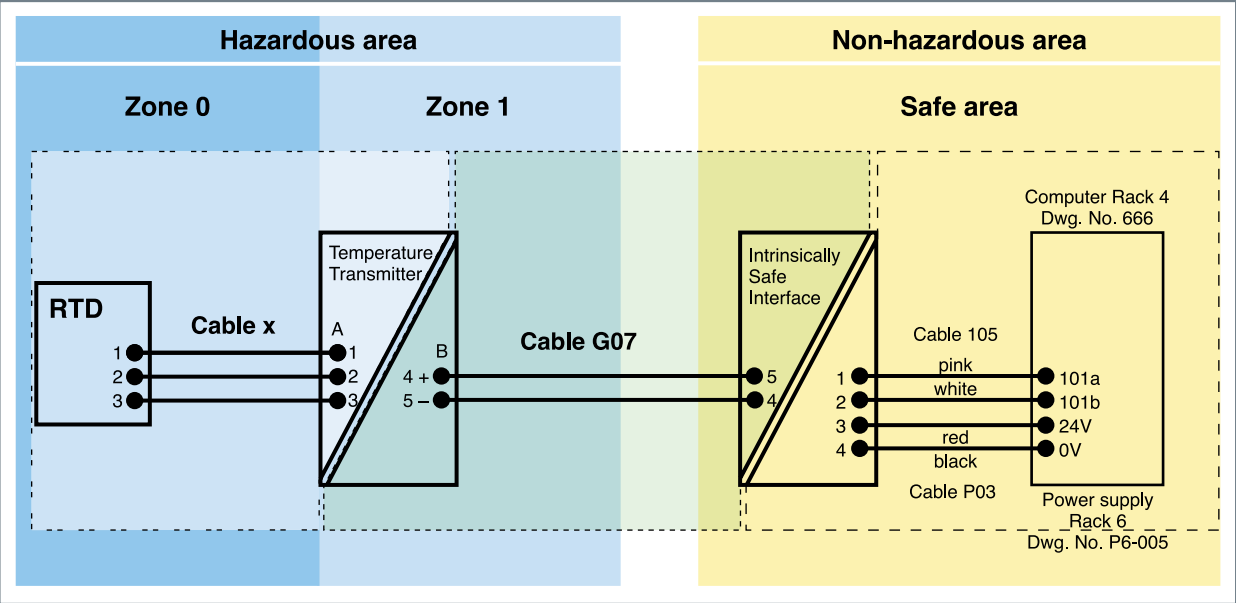

Figure 2.1 - Typical IS system
Figure 2.1 illustrates a typical intrinsically safe (IS) system where the safe performance of each piece of apparatus is dependent on the integrity of all the equipment in the system. For example, the safety of the Temperature Transmitter (Tx) depends upon the amount of energy supplied by the IS Interface. In most process control applications, each piece of apparatus in a system is individually certified. A document that confirms the safety of the whole system is then produced using the information from the individual apparatus certificates, in accordance with the system standard IEC 60079-25. This system document also includes details of cable types and simple apparatus used in the system. It is important to recognise that where pieces of intrinsically safe apparatus are interconnected, it is the safety of the system that must be established. There are however some examples of apparatus which stand alone, such as mobile radios and portable gas detectors, where the system approach is not relevant.
The standard enables almost all apparatus, dissipating not more than 1.3W, to be allocated a temperature classification of T4 (135°C). Almost all intrinsically safe field mounted apparatus meets the requirements of T4 temperature classification, which permits its use in all industrial gas atmospheres except in those comprising carbon disulfide (CS₂) and air. These require a T6 classification, which is difficult to achieve at high ambient temperatures. There are also toxicity problems associated with carbon disulfide. The other temperature that needs to be considered for each piece of apparatus is its ambient temperature rating, which does directly affect the safety of the apparatus in several ways. Apparatus normally mounted in the safe area but which affects the safety of the intrinsically safe system (such as the intrinsically safe interface in Figure 2.1) is called 'associated apparatus'. Such apparatus does not need to be temperature classified but must be used within its specified ambient temperature range.